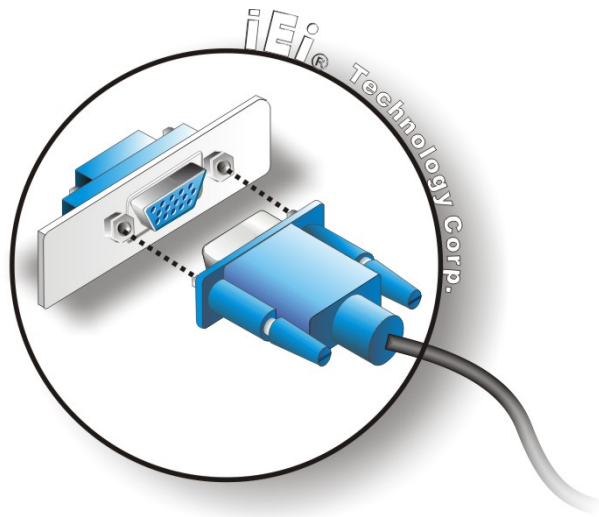

Figure 4-23: VGA Connector
- Step 3: Insert the VGA connector.** Once the connectors are properly aligned with the insert the male connector from the VGA screen into the female connector on the NANO-945GSE2. See **Figure 4-23**.